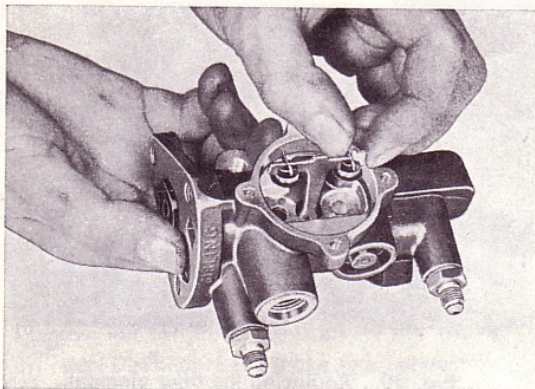
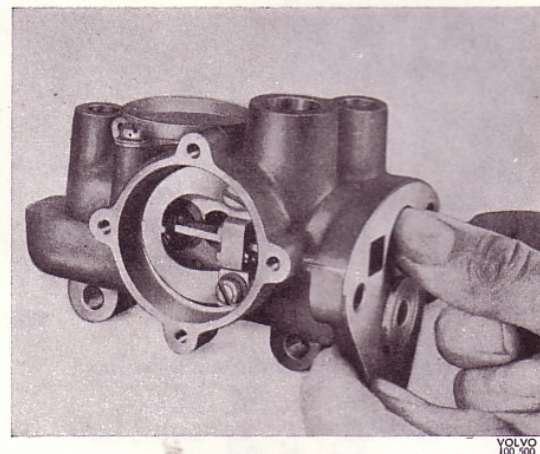

Fig. 32. Removing the valve arm.
Fig. 41. Testing the control device.
3. Remove the cover (7) from the valve body (6). Unscrew the screws (10) and lift out the yoke (11) and spring (4). Press carefully on the control cylinder plug and lift up the valve arm as shown in Fig. 32.
3. Fit the valves (2 and 12, Figs. 8 and 40) on the valve arm (3) and place the unit in position in the housing as shown in Fig. 32. Fit the spring (4), yoke (11), washers and screws (10). Tighten the screws to a torque of 0.3—0.4 kgm (2—3 lb.ft.). Test the function by pressing the control plunger backwards and forwards as shown in Fig. 41, when the valves should open and close respectively. In the normal position the valve nearest the flange should be open